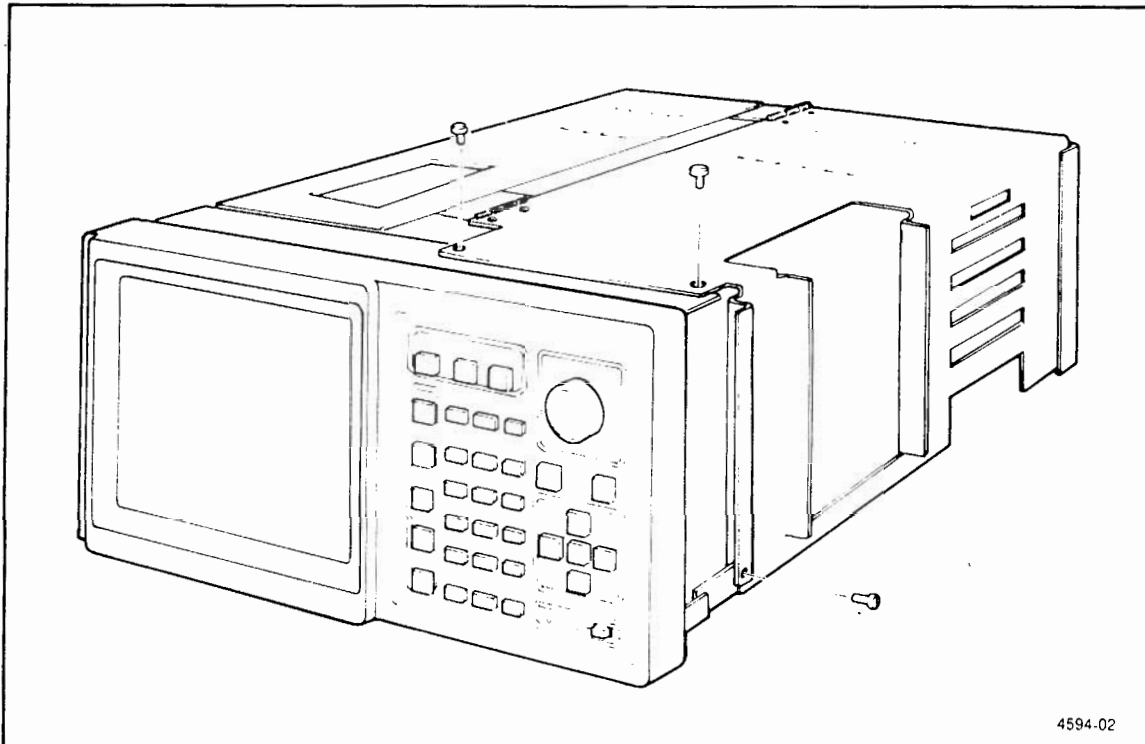

Figure 2. Location of three screws for card cage roll.
2. Remove the three #4 flat-head screws shown in Figure 2.